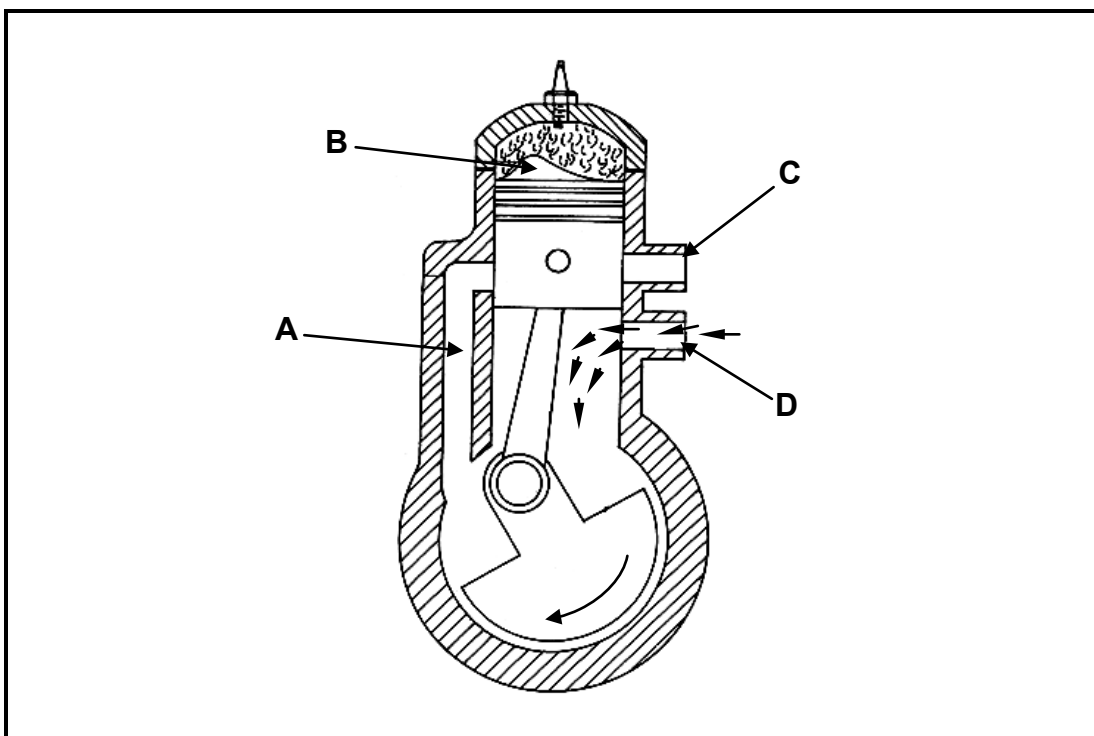

FIGURE 8.2
8.2 FIGURE 8.2 below shows a stroke of a two-stroke petrol engine. Answer the questions that follow.
8.2.2 Identify and explain the operation of the stroke in FIGURE 8.2 above. (4)